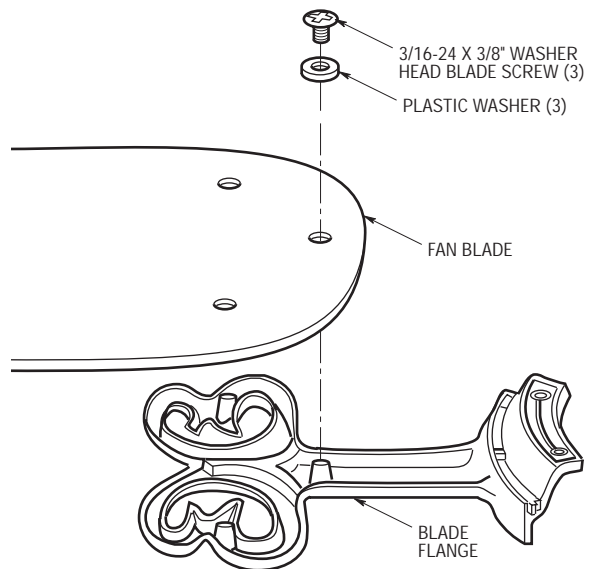

Figure 12
- 15. Mount blade flanges to fan blades using three 3/16-24 x 3/8" slotted washer head blade screws, three plastic washers (Figure 12).